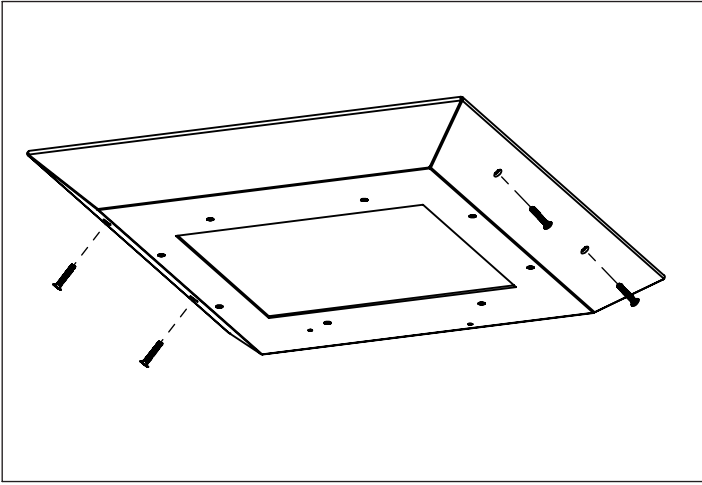

Figure 1
1. Remove (4) screws to open fixture (Fig. 1)